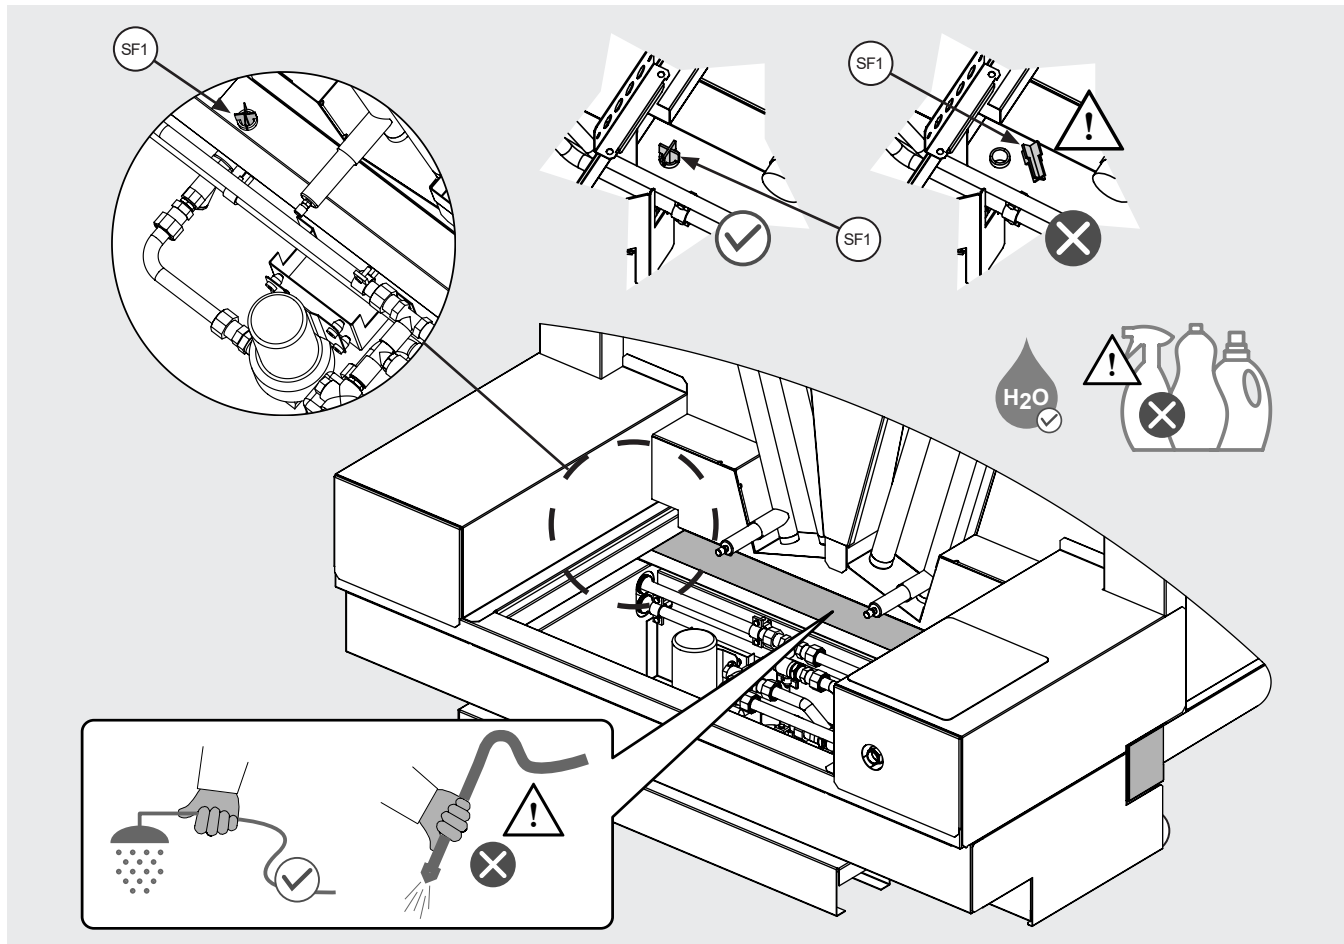

Figure 27
12.15.7 Clean with non-pressurized running water, taking care not to damage electrical connections and level sensors, see Figure 2 and Figure 27. Do not use pressurized water and/or cleaning or aggressive substances.
12.15.8 Carefully clean the flow divider SF1. Do not remove it from the housing. If accidentally removed, replace it. See Figure 27.
12.16.1 See point 2.9 for functional description of level switch (W1) and its location. Level switch (W1) is located inside the external tank (V2), see Figure 27.